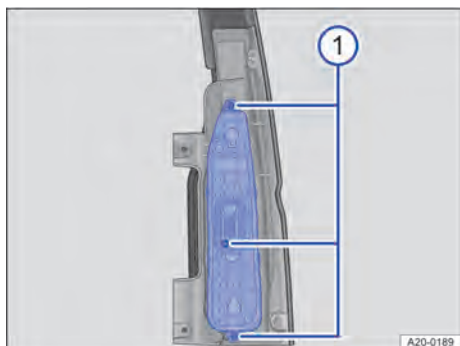

Fig. 188 On the tail lamp cluster: removing the bulb holder.
2. Undo securing screws with the screwdriver → Fig. 188 ①. Insert a suitable interchangeable blade if necessary.
3. Remove the bulb holder → Fig. 188.
1. Carefully insert the bulb holder into the tail lamp cluster → Fig. 188.
2. Screw the bulb holder onto the tail lamp cluster with the securing screws → Fig. 188 ①.